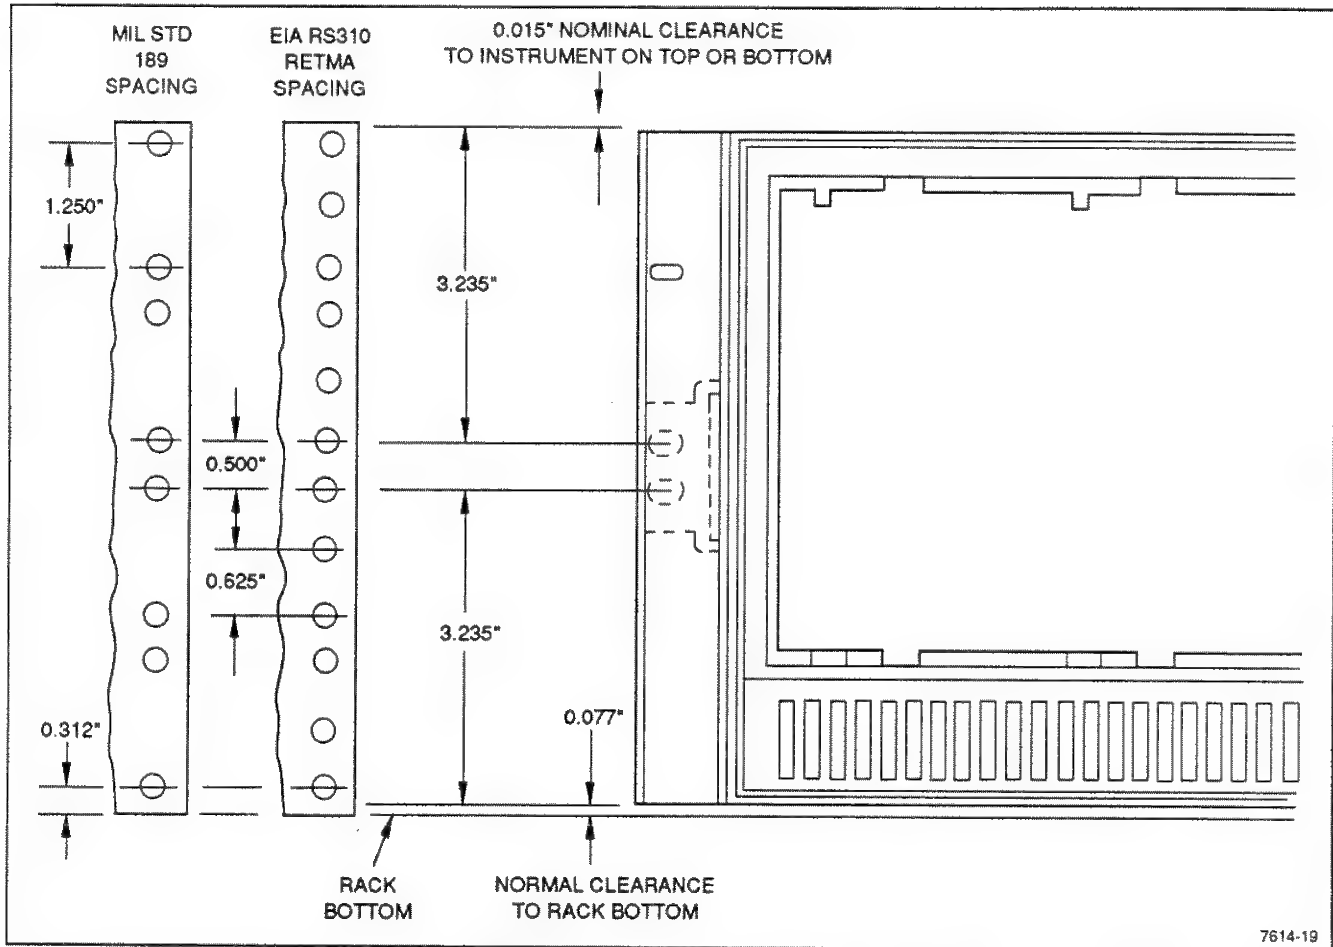
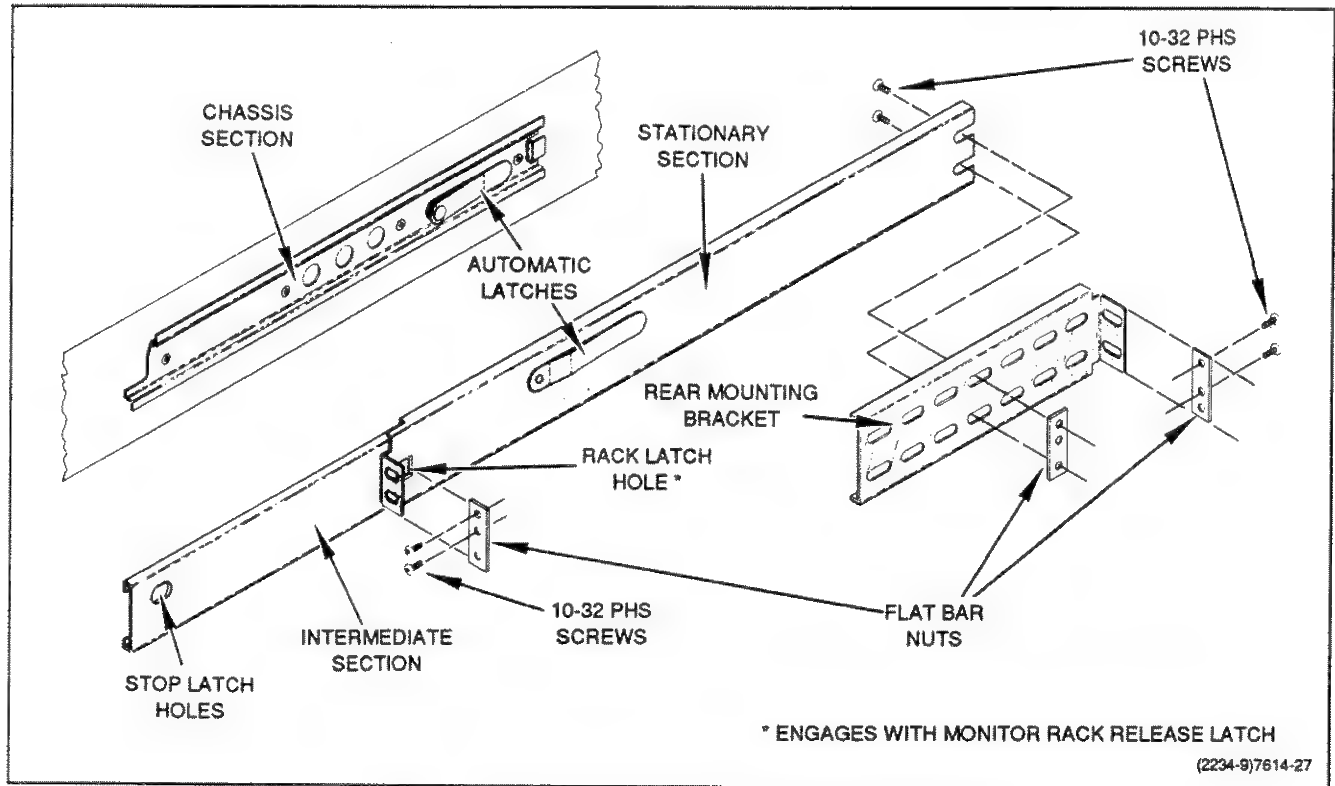

Fig. 2-6. Dimensions and positioning in standard rack.
Fig. 2-7. Slide detail. Discard bar nuts if rack is tapped.
**Mounting the Slide Tracks.** Locate the proper rack holes for mounting as shown in Figure 2-6. Notice that the hole spacing in the racks varies. When installing the slides in the EIA type racks, make certain the slides are attached to the 1/2-inch spaced holes. Figure 2-6 also shows details for determining position of the slides in the rack. Mount the rails using enclosed hardware as shown in Figures 2-7 and 2-8. Figures 2-8B and C show rail-mounting details for deep and shallow racks. Make sure the stationary sections